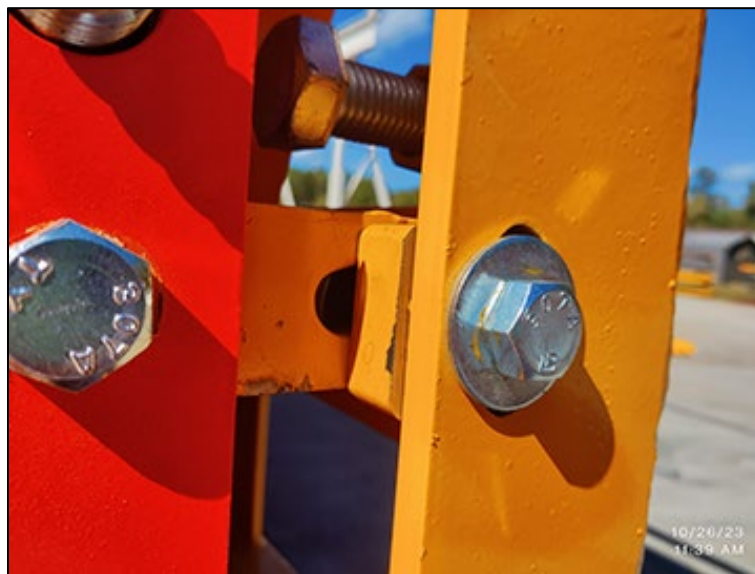

Figure 4
8. Tighten side and bulkhead checking bolts so they secure the scale and prevent any movement. See Figure 4